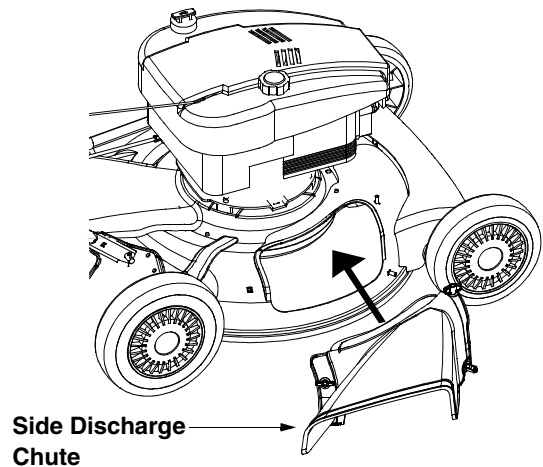

Figure 8
- Attach side discharge chute to the unit and secure with wing nuts. See Figure 8.